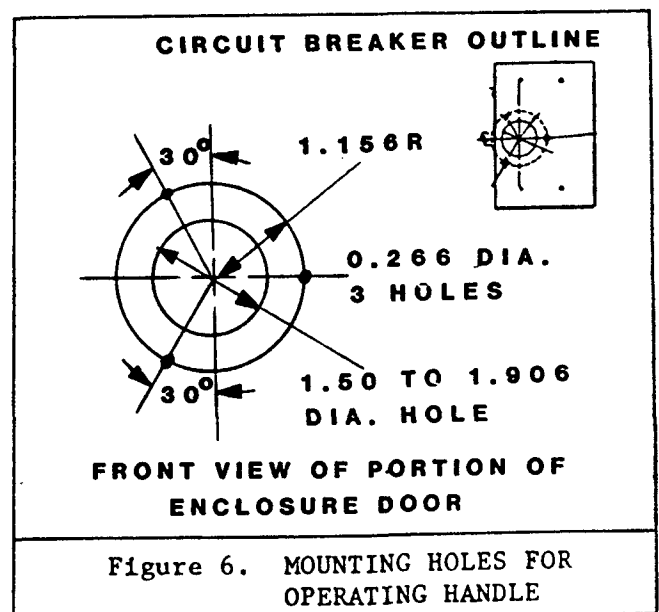

Figure 6. MOUNTING HOLES FOR OPERATING HANDLE
7. Center punch a mark onto enclosure door by lightly closing door against operating rod. Drill four holes in door as shown in Figure 6.